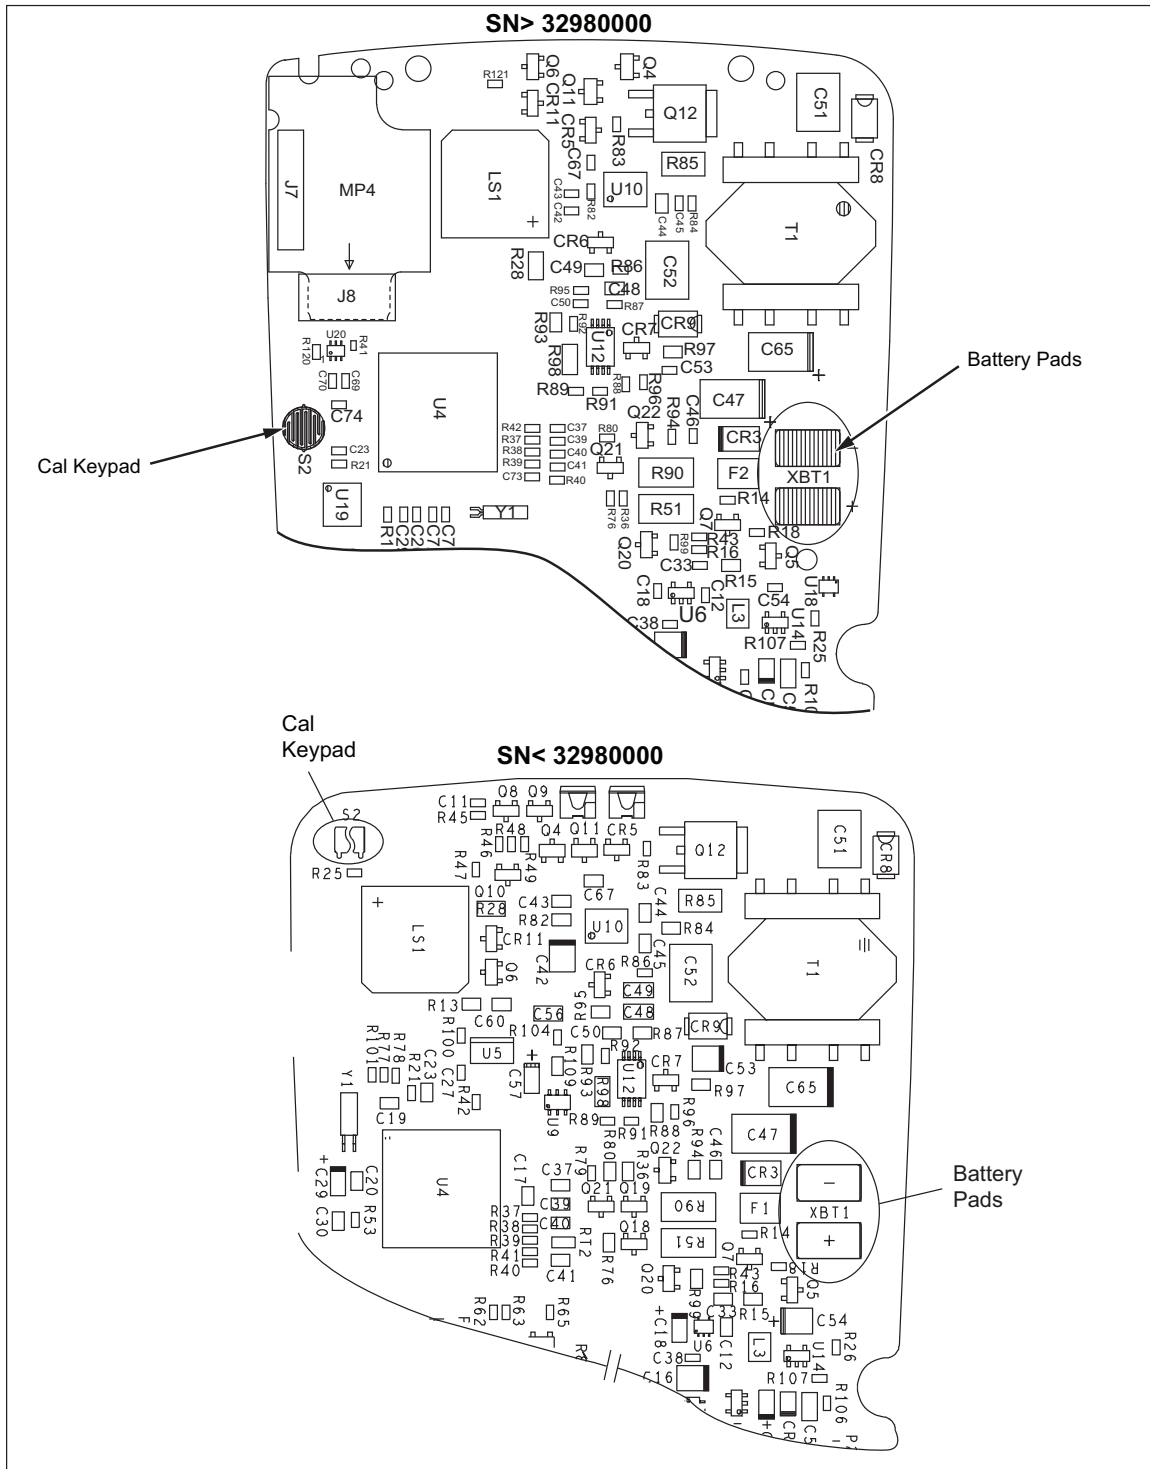

Figure 10. Restoring the Default Password
3. Apply 6.0 V across the battery pads (XBT1) + and – on the back of the PCA. See Figure 10.
4. Short across the **RL** keypad on the back of the PCA. See Figure 10. The UUT should beep. The default password is now restored.